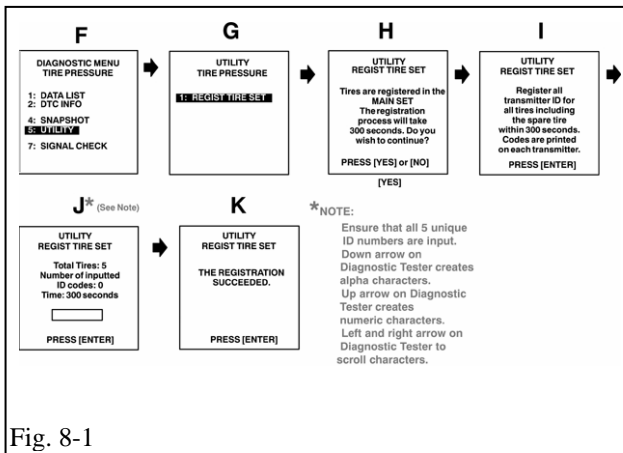

Fig. 8-1
- (a) Select the REGIST TIRE following the hand-held tester screen. (Fig. 8-1) (UTILITY – REGIST TIRE)